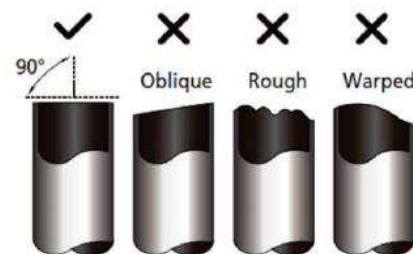

Fig. 5.1
3. Make sure that the tube is cut at a perfect 90° angle. Refer to Fig. 5.1 for bad cut examples.